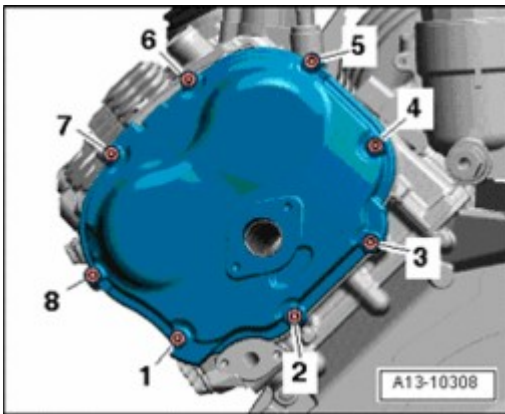

Fig. 171: Identifying Left Timing Chain Cover And Tighten/Removing Bolts Sequence
- Observe sequence when tightening: Left --> **Fig. 171** ; right --> **Fig. 173**.